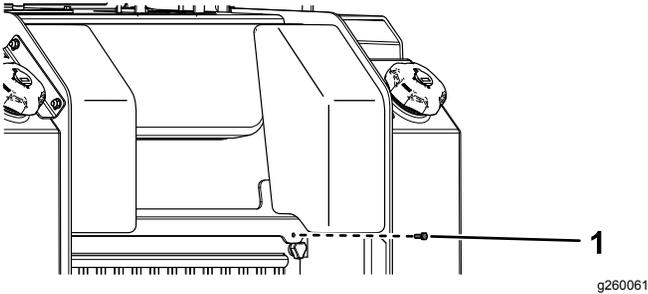

Figure 39
1. Remove the fastener (Figure 39).